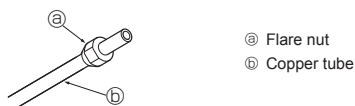

Fig. 5-4
5.3.3. Putting nut on (Fig. 5-4)